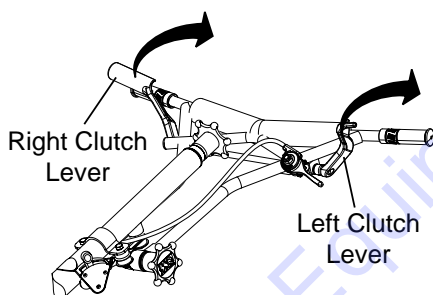

Figure 33. Clutch Levers (Blade Activation)
- Squeeze the pull the clutch lever (Figure 33) to begin 4-blade rotation. Verify that the blades are rotating.